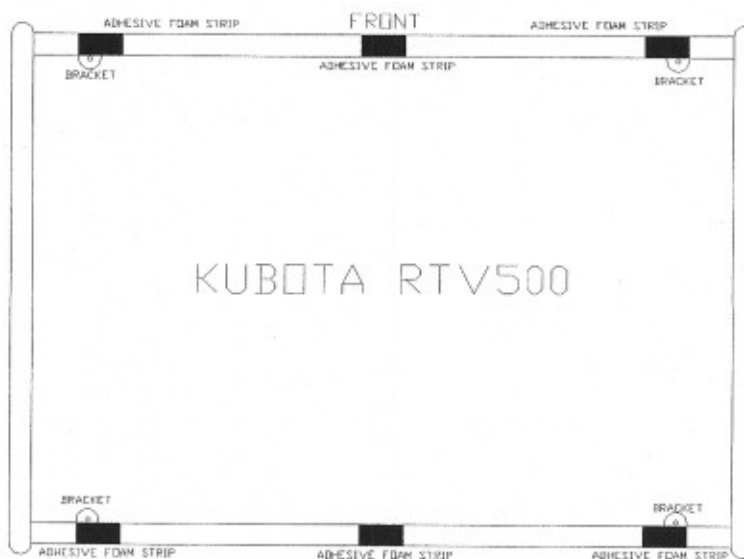

Figure 1
2. Using **Figure 1 (for 500) and 2 (for 900, 910 or 1100)** Below – place UTV Roof Mounting Brackets around roll cage bar and using a marker, mark the position of the holes needed in the roof for each Roof Mounting bracket.
4. Cut (4) 3" strips of adhesive foam and apply to roof in between holes to prevent roof rattling once mounted. Foam should run in the direction of the roll cage as shown in Figure 1 above.
6. Prior to attaching the roof mount brackets, cut the remaining adhesive foam in half and apply one section to the roof in the center of the roof where roof and each roll cage bar meet as shown in Figures 1 above. If additional tape is required to prevent rattling it can be purchased from any hardware store as window sealant foam tape.